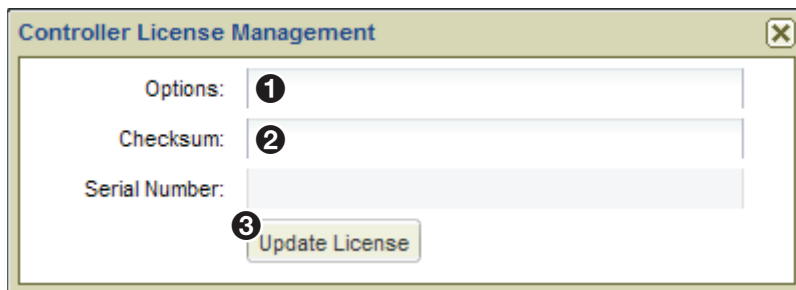

Figure 13. Controller License Management Window
The Controller License Management dialog box opens (see figure 13). Keep this box open.
- Enter the structure key into the **Options** field (see figure 13, ①).
- Enter the license key into the **Checksum** field (②).
7. Click **Update License** (③) to assign the new license settings.